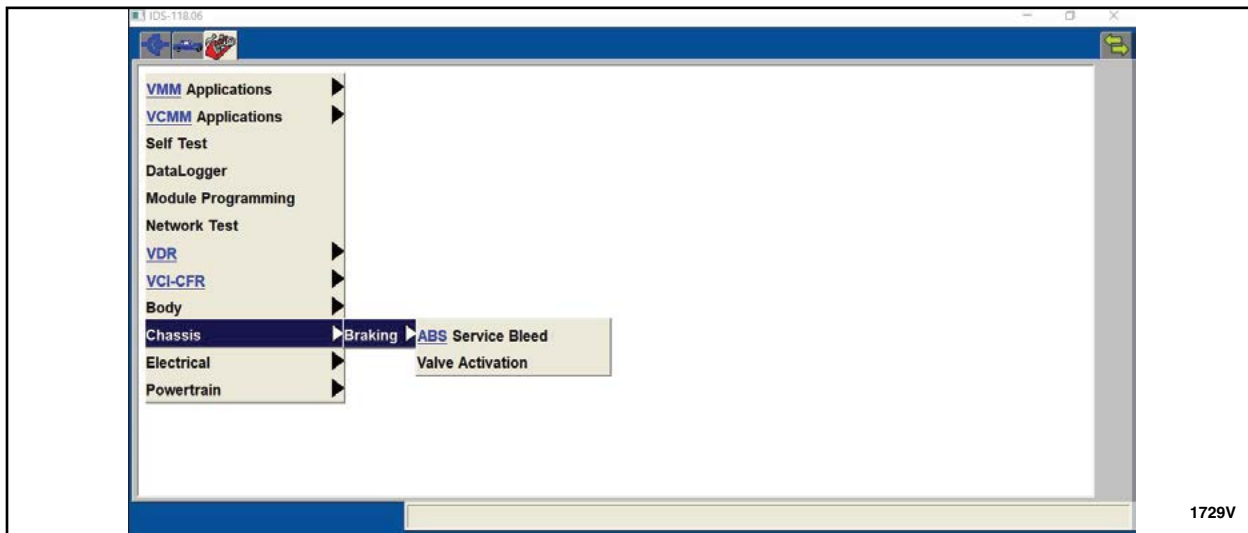

FIGURE 16
9. Select the "Tool Box" tab then "Chassis", "Braking" then "ABS Service Bleed". See Figure 16.